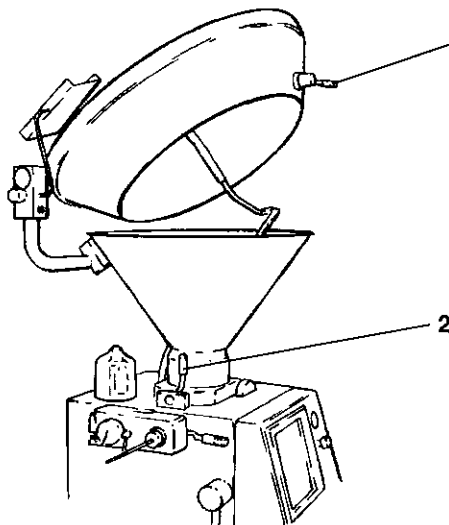
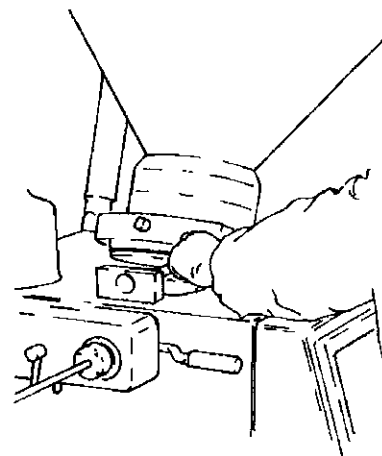

Fig. 1-2
Fig. 1-3 Opening the whole hopper
- Release the hopper upper locking lever (Fig. 1-2, 1). On machines with an 80 l hopper, a safety switch shuts down the drive for the filling machine when the upper part of the hopper is opened (not applicable for machines with 150 l and 230 l hoppers).
- In order to open the feed element, the entire hopper can be opened (Fig. 1-3) after releasing the lower locking lever (Fig. 1-2, 2).